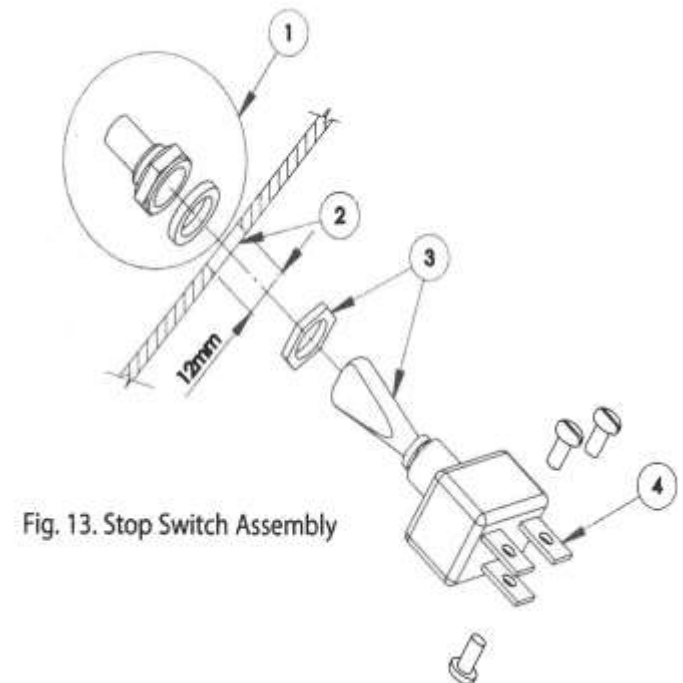

Fig. 13. Stop Switch Assembly
2. Screw the jam nut fully onto the switch. Item 3 in Fig. 13.